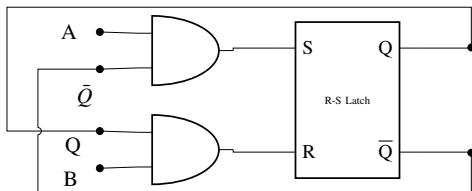

Fig. 5.26
29. The two inputs A and B are connected to to an R-S latch via two AND gates as shown in Fig. 5.26. If $A = 1$ and $B = 0$, the output $Q\bar{Q}$ is (GATE IN 2017)